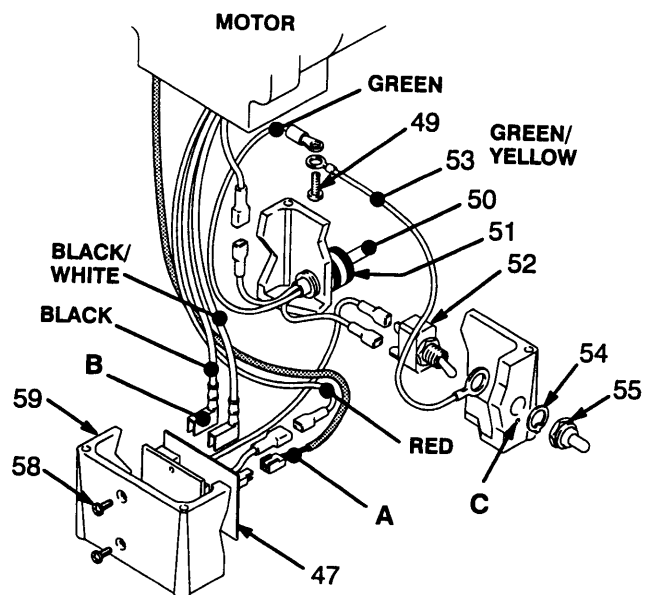

Fig 25-1
2. Disconnect the motor wires (B) and the 3-wire connector (A) from the motor start board (47). Observe where connections are made. See Fig 25-1.
3. Remove the screws (58) and motor start board (47). Transfer the white thermal paste from the old board to the new board. See Fig 25-1.
4. Install the new motor start board. Reconnect all wires. Mount the junction box. See Fig 25-1.
2. Remove the nut and rubber boot (55).
3. Disconnect the black wires from the ON/OFF switch (52) and remove the switch. See Fig 25-1.
4. Place the ring terminal of the ground wire (53) over the barrel of the new switch. Install the switch so the internal tab of the anti-rotation ring (54) engages with the vertical groove in the threads of the switch, and the external tab engages with the blind hole (C) of the junction box.
5. Powder the inside of the rubber boot (55) with talcum, then shake the excess out of the boot. Install the nut and rubber boot and tighten.